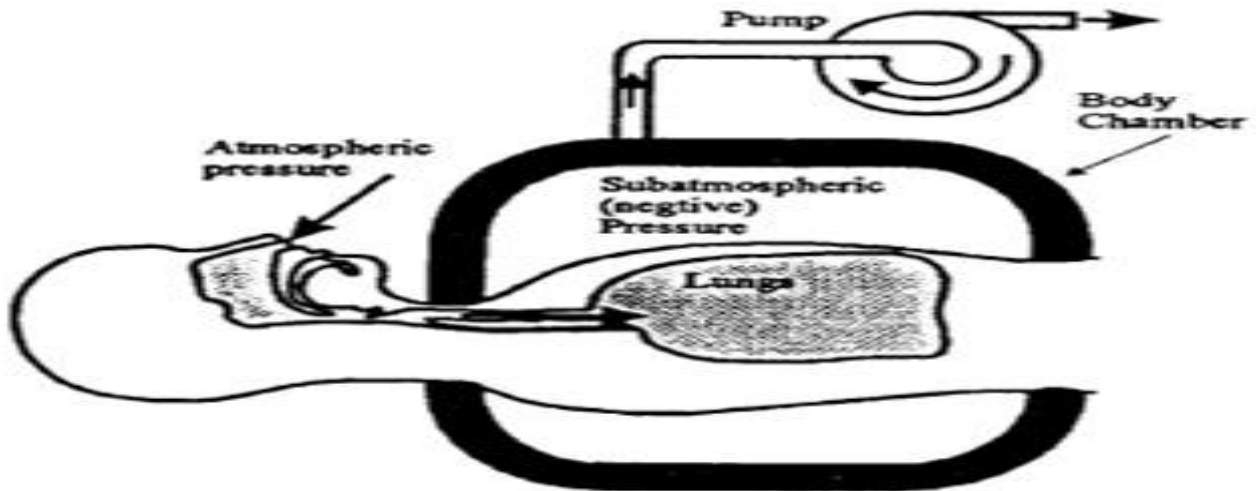

Figure 2. Iron lung.
- More recent designs have tried to restrict the application of the negative pressure to the chest walls by designing a chamber that goes only around the chest as in figure 2. Negative-pressure ventilators also made the patient less accessible for patient care and monitoring. Further, synchronization of the machine cycle with the patient's effort has been difficult and they are also typically noisy and bulky.